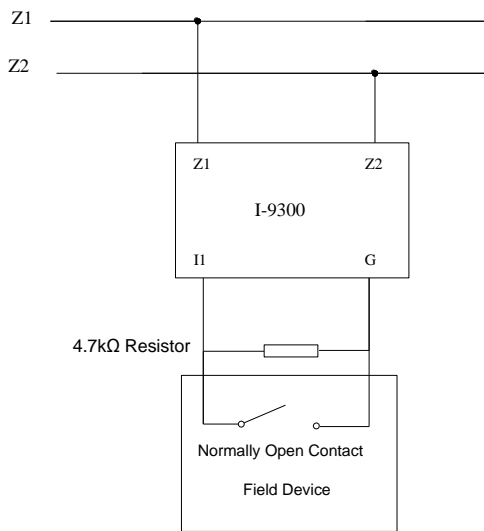

Fig. 6
✧ Fig. 6 shows connecting the module with field device with volt-free normally open contact requiring cable monitor. Working mode is normally cable monitor (1).